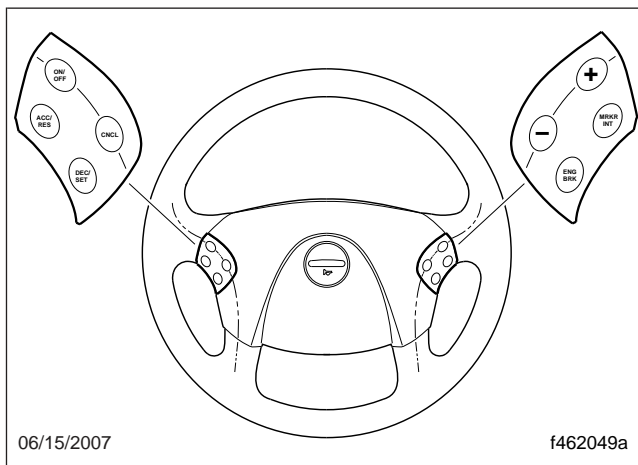
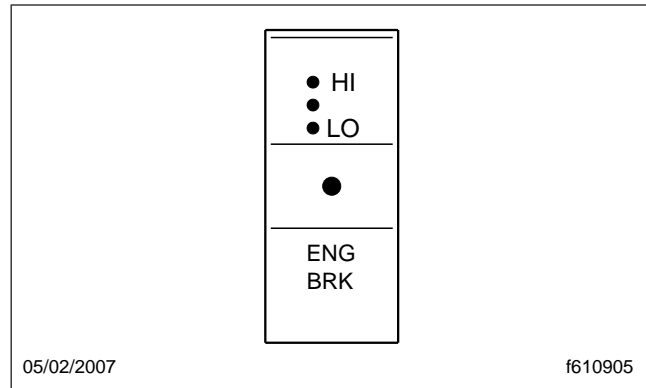

Fig. 13.4, Steering Wheel Switches
Fig. 13.5, Engine Brake Level Switch
The engine brake control depends on vehicle configuration. On some vehicles, there is an engine brake (ENG BRK) switch located in the right-hand pod on the steering wheel that is used to turn the engine brake on and off, and an engine brake level switch on the dash used to set the intensity—high, medium, or low. See Fig. 13.4 and Fig. 13.5.
2. Press the upper half of the on/off switch (see Fig. 13.4) to turn the engine brake on. The engine brake will engage at the rate last set on the engine brake intensity switch and the engine brake lamp will illuminate.
3. Press the upper or lower half of the intensity switch (see Fig. 13.5) to select the desired braking intensity.